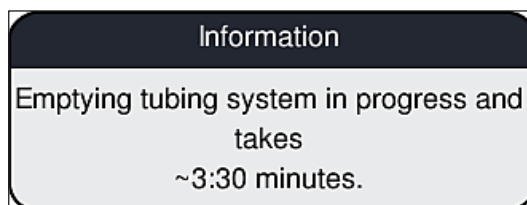

Fig. 106
6. On the screen, an information message (→ Fig. 106) appears informing the user about the duration. This message disappears as soon as air pumping has been completed.